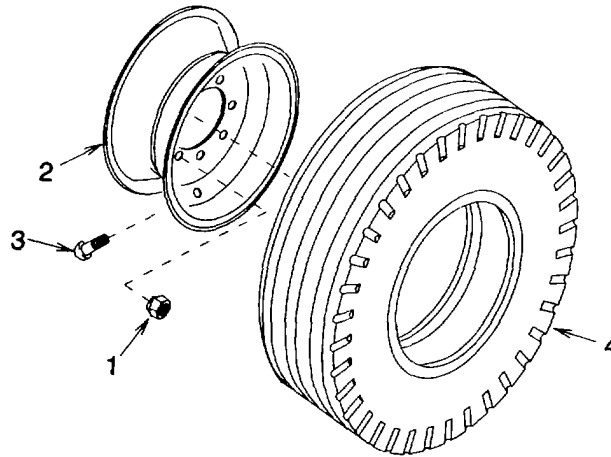

Figure 4-30. Tires/Wheels
- a. Removal (See figure 4-30.)